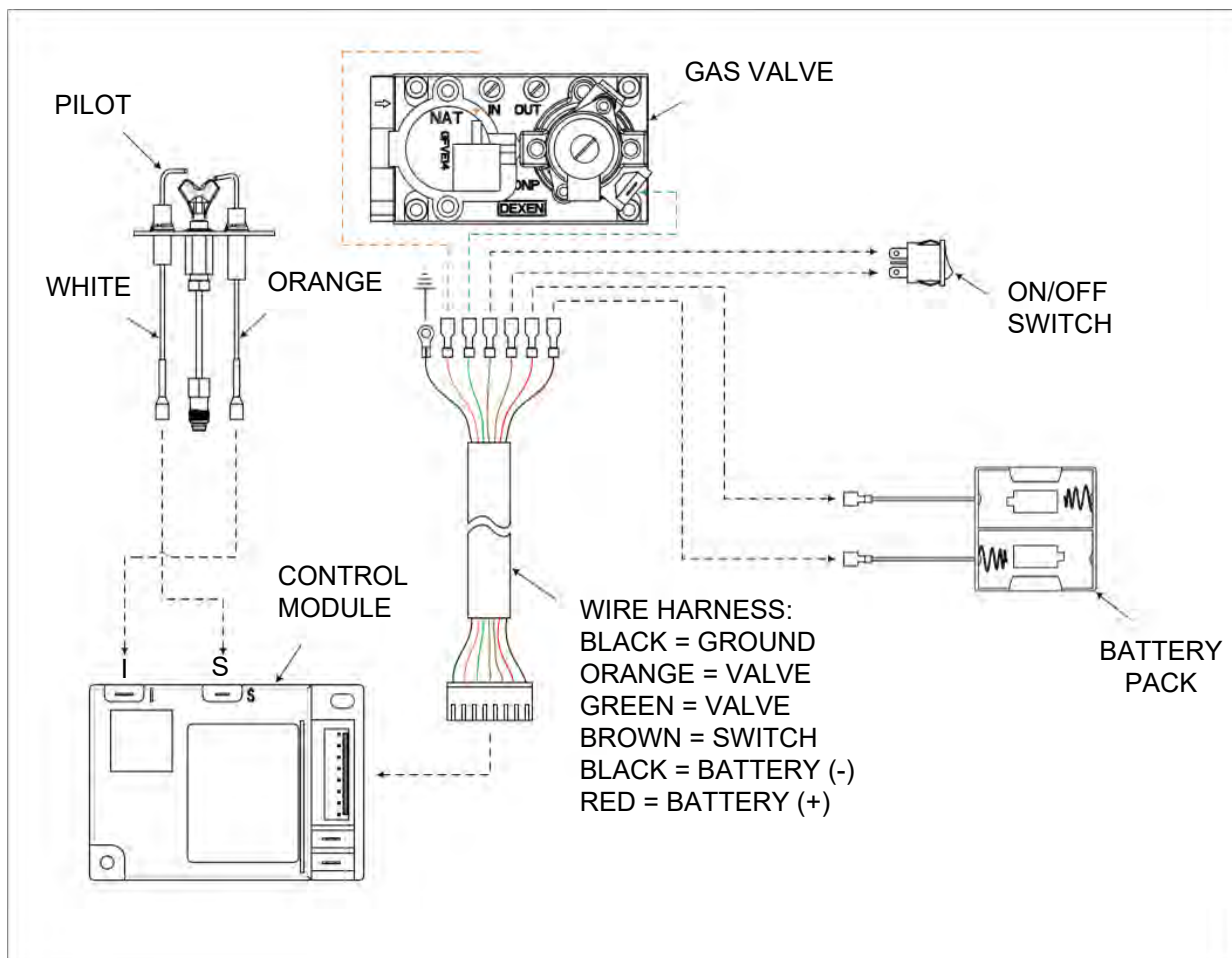

Figure 6.1 Wiring Diagram
- The intermittent pilot ignition system (IPI) on the Stadium series gas log set comes standard with an integrated battery pack, that holds (2) D size batteries.
- An ON/OFF Switch is supplied with the appliance. See Figure 6.1